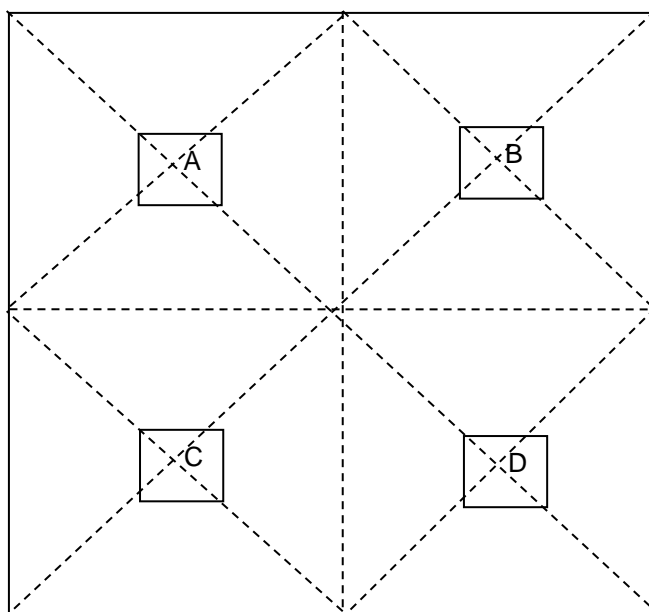

Figure 4-1. Positions A, B, C and D are centered at each quarter of the base platform.
1. Place test weights equal to one third of the Base's capacity sequentially at each of the positions A, B, C, and D, as shown in Figure 4-1. Note the Indicator reading at each position. Base capacity, see Table 1-1.